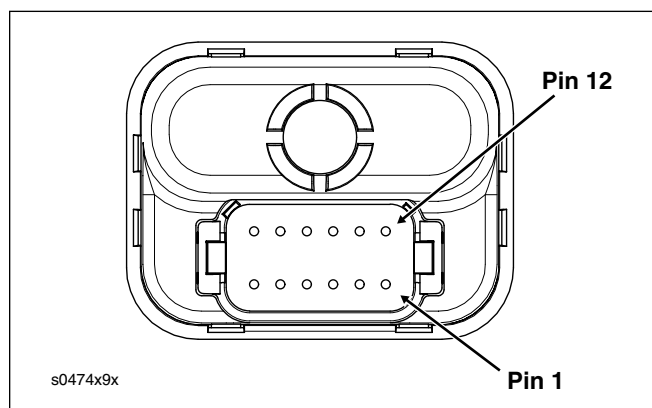

Figure 3-17. TSM/TSSM Connector
2. See Figure 3-17. Depress latches on connector [30B].
1. See Figure 3-17. Depress latches on connector [30B].